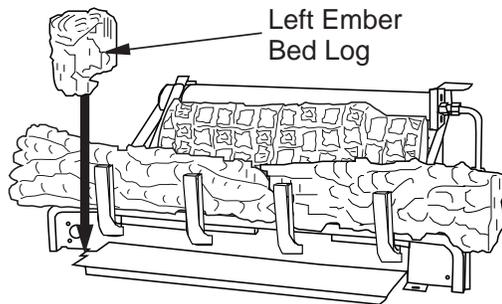

Figure 28 - Installing Left Ember Bed Log
- Place left ember bed log (18" D-073, 24" & 30" D-048) as shown in **Figure 28**. The log has groove on one side that sets on the ember bed pan. The back side of this log needs to rest against the front of the base assembly. Make sure the flame from the ember pan does not touch the ember bed log.